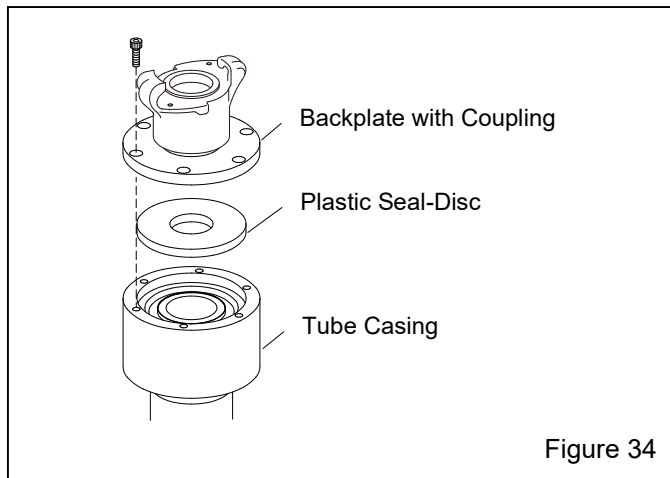

Figure 34
**9.5 Backplate Coupling-Flange Reassembly Figure 34**